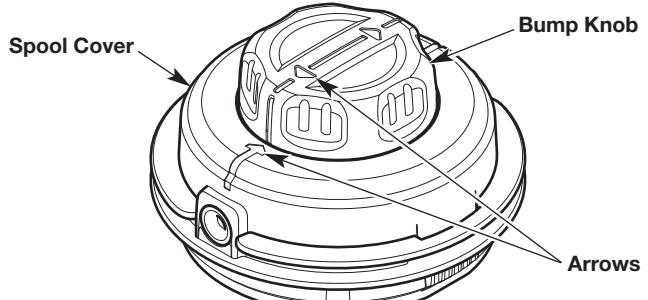

Fig. 20
3. Turn the bump knob to align the arrows on the bump knob with the arrows on the spool cover (Fig. 20).